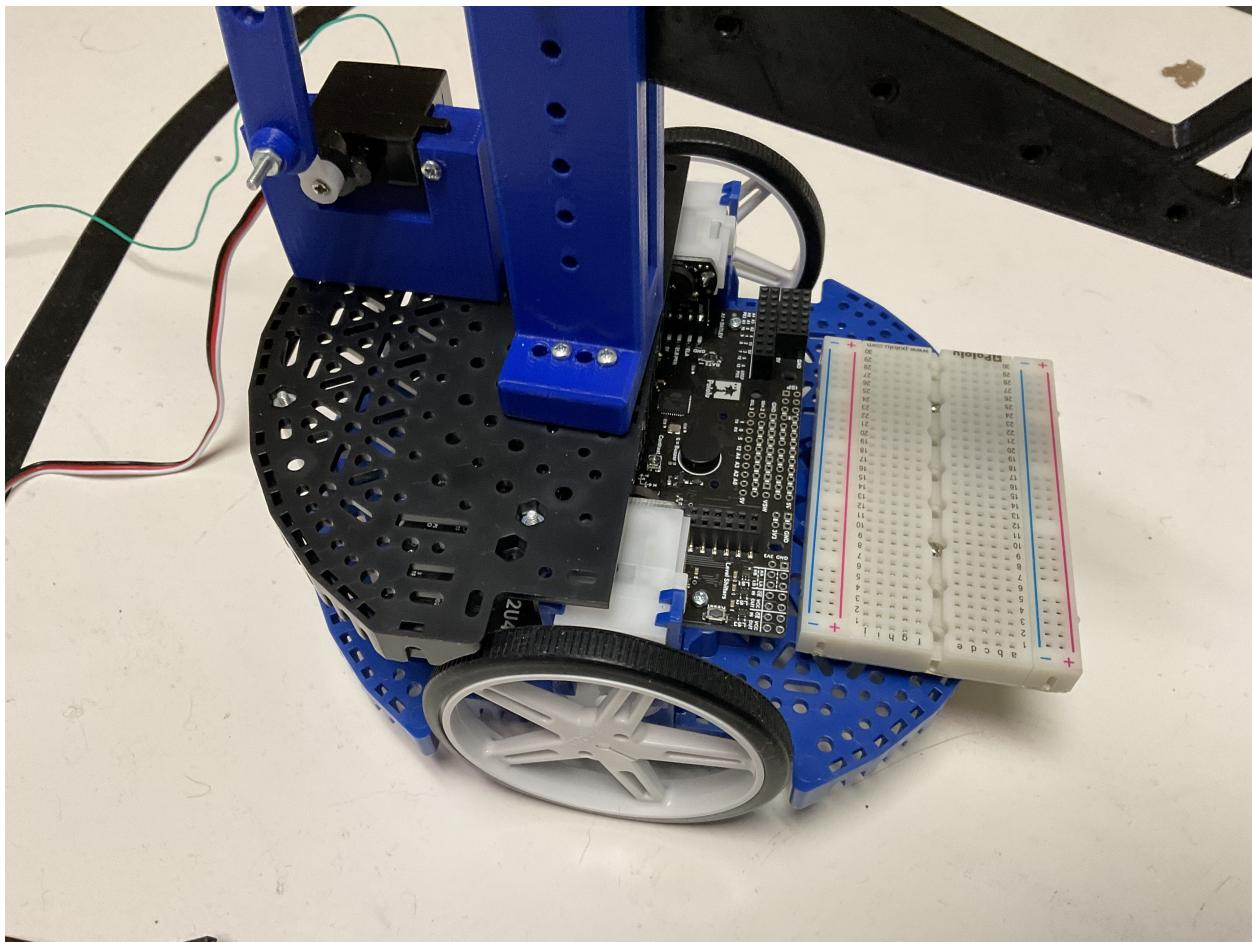

Figure 9: Romi with breadboard mounted.
- (a) Using the plastic tubing in your kit, cut (2) 1/4" lengths to be used as spacers. Using 3/4" screws, mount the breadboard to the base with the spacer between the breadboard and the chassis, as shown in Figure 9. Alternatively, you can just use tape or a rubber band to